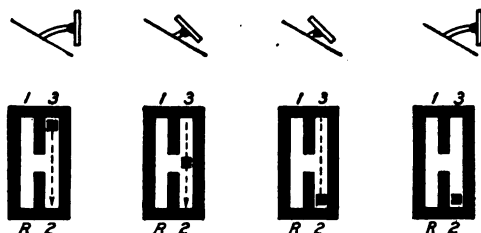

Fig. 17. Movement of Clutch Pedal (top) in Changing from Third to Second Speed (bottom).
**Changing with Selective Gearing.** Of the two chief varieties of sliding gear the selective is in universal use. The most familiar form employs a sort of grid with communication between the two slots through a gate or passage cut in the bar at right angles to the slots. A lever works backward or forward in either of these slots and can be shifted from one to the other through the communicating gate. The ends of the slots represent the positions of the lever when certain gears are engaged, and in the illustration, Fig. 17, the lever is seen with the third or high gear in mesh. For changing from third to second gear the procedure is shown graphically. The first position is with the clutch engaged and the gear lever in third gear position, the clutch being shown